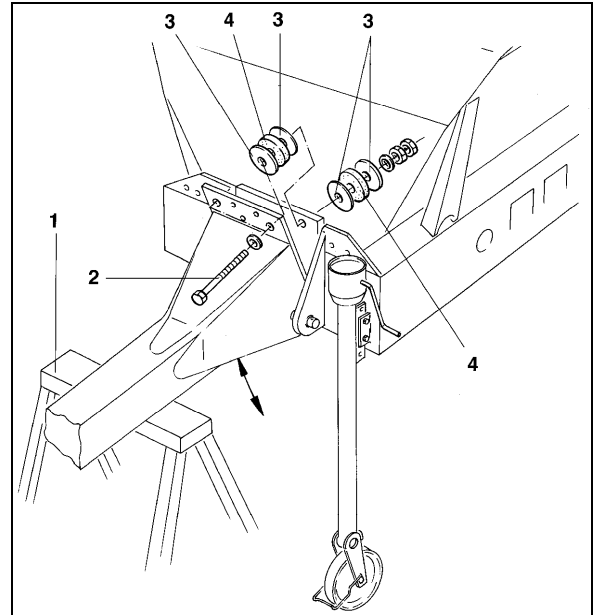

Fig. 48
2. Support the drawbar on a stable trestle (Fig. 48/1) and unscrew both securing screws (Fig. 48/2).
3. The spacer discs (Fig. 48/3) can be turned evenly to adjust the drawbar. The buffers (Fig. 48/4) must not be removed. They absorb any impact transferred from the tractor to the spreader.